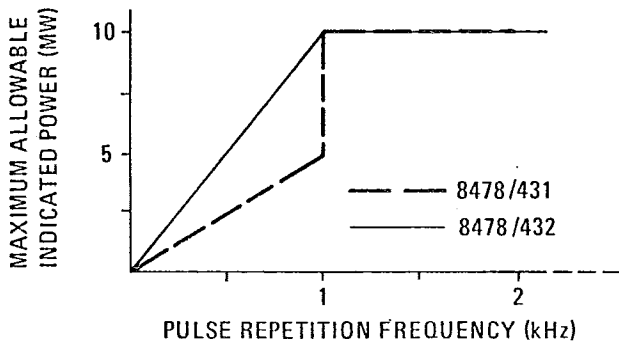

Figure 1. Maximum Power Meter Reading vs PRF for Pulses Shorter than 250 μ sec
mW, 250 μs pulse contains 10 W-μs of energy.) Pulses longer than 250 μs are allowed to contain more energy but peak power must not exceed 200 watts. Figures 1 and 2 interpret these limits in graphical form. (For lack of space, the mount nameplate lists only a 5 W-μs limit, a rating which applies to the 8478B/432A combination.)
19. The limitations of this combination are basically the same as the 8478B/432 with the exception that at pulse repetition rates less than 1 kHz, energy per pulse must not exceed 5 W- μ s and peak power must not exceed 10 mW. These limits are also interpreted in Figures 1 and 2.